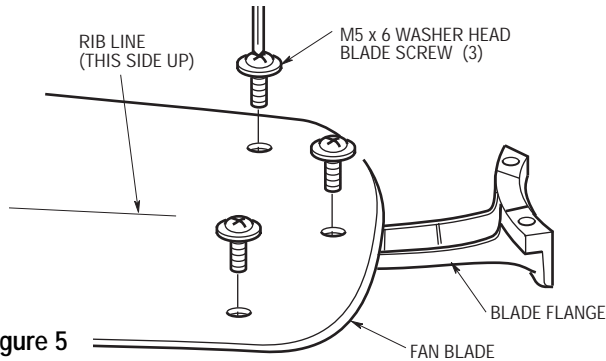

Figure 5
IMPORTANT: THE SIDE OF THE FAN BLADE HAVING THE RIB LINE MUST BE FACING UPWARDS AS SHOWN IN FIGURE 5.
- 7. Mount blade flanges to fan blades using three M5 x 6 washer head blade screws per blade (Figure 5).